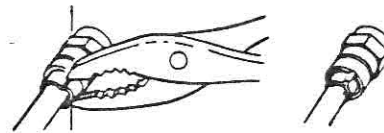

Figure 4. Installation of Connector to Shortened Cable.
**NOTE:** If the coaxial and rotator cable assembly is too long, it may be shortened and a new connector (RCA 10GFO59) assembled to the coaxial cable as shown in Fig. 4.